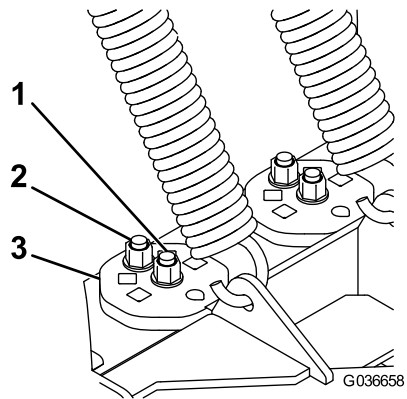

Figure 47
3. On the cams, remove the bolt in the square hole and loosen the bolt in the center (Figure 47).